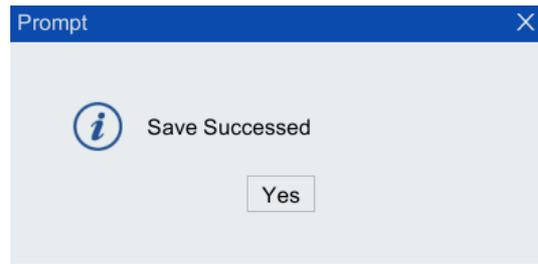

Figure 5-54 Save successful prompt box
- Step3. Click <Save> button below to pop up "Saved Succeeded" dialog box in Figure 5-54, and then the setting will be completed.